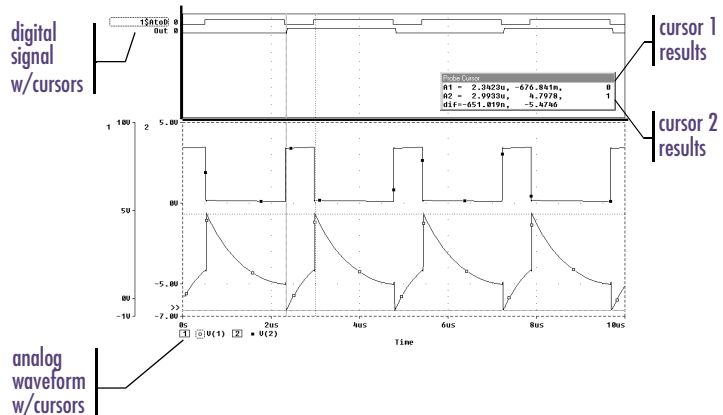

Figure 121 Cursors positioned on a trough and peak of V(1)
Figure 121 shows both cursors positioned on the Out signal in the digital area of a plot, and both cursors on the V(1) waveform in the analog area of the plot.
The mouse buttons are also used to associate each cursor with a different trace by clicking appropriately on either the analog trace symbol in the legend or on the digital trace name (see Table 1 on page 17-550). These are outlined in the pattern corresponding to the associated cursor's crosshair pattern. Given the example in Figure 121, right-clicking the V(2) symbol will associate cursor 2 with the V(2) waveform. The analog legend now appears as shown below.